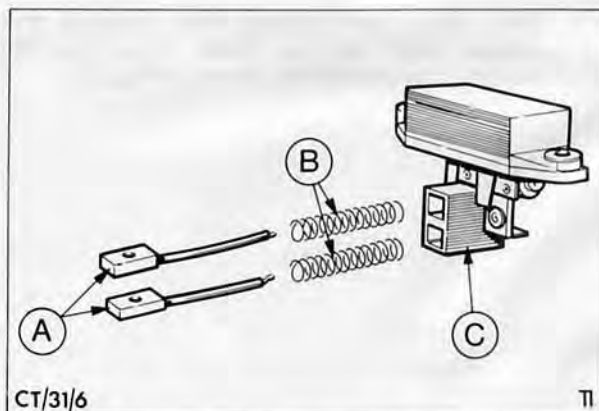

Fig. 30. Brush box exploded
5. Install brushes, and springs into brush box and solder connections, Fig. 30.